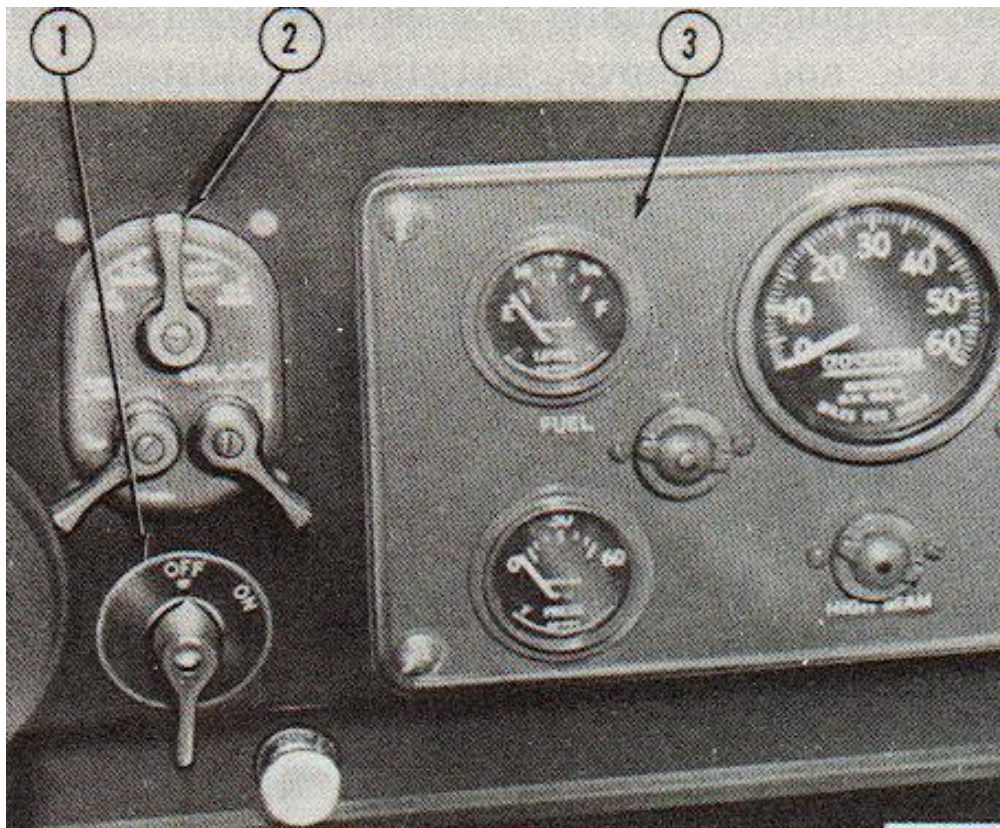

Figure 2-55. Ignition switch.
h. Ignition Switch. (Fig 2-55)
- (1) Disconnect battery ground cable from battery negative terminal.
- (2) Remove screw from center of switch lever and remove switch lever.
- (3) Remove nut and washer which secure ignition switch and switch nameplate to instrument panel.
- (4) Insert hand behind instrument panel and disconnect ignition switch cable connectors.
- (5) Grasp switch and remove from instrument